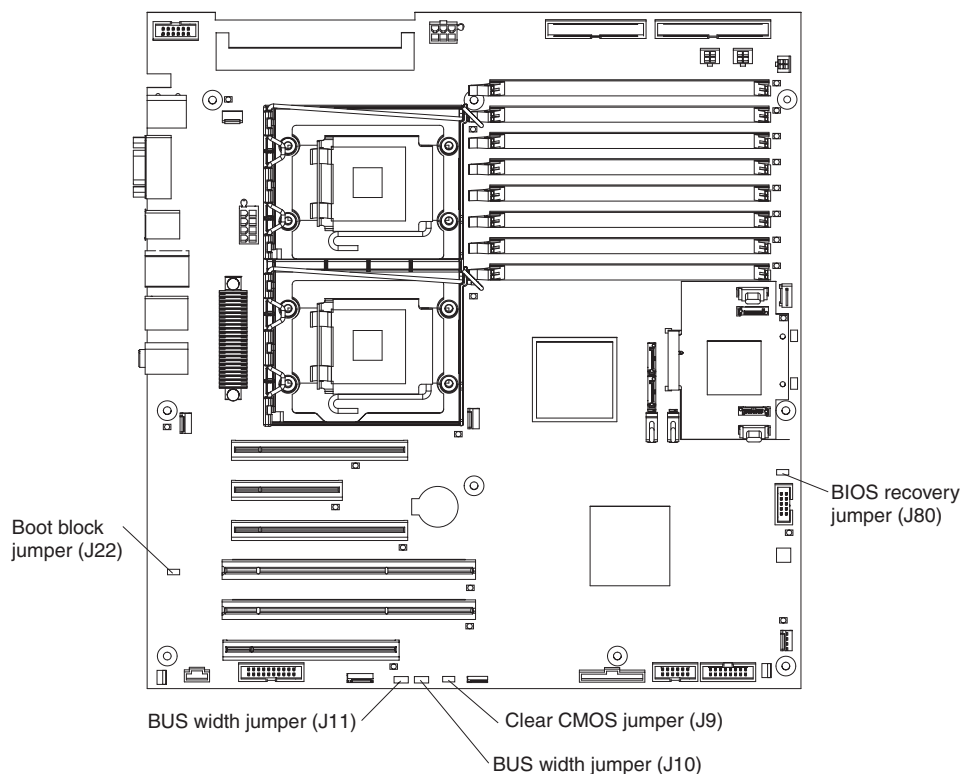

Figure 63. Recovery jumper locations
5. Locate the BIOS recovery jumper (J80) on the system board (see Figure 63 on page 140). Remove any adapters that impede access to the jumper.
5. Locate the CMOS recovery jumper (J9) on the system board (see Figure 63 on page 140), and remove any adapters that impede access to the jumper.